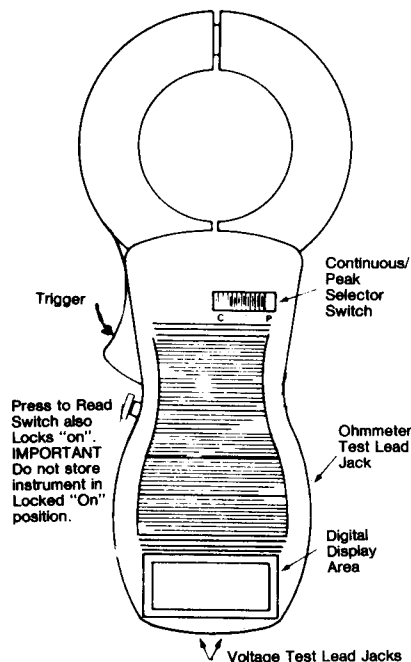

Figure 1
- Insert insulated voltage test lead connectors into voltage receptacles in bottom of instrument. (See Fig. 1) Push in against receptacle spring and twist clock-wise to lock in place.
- Plug ohmmeter lead into jack on the right side of the instrument. (See Fig. 1).
To take a reading once the instrument has been connected as per the following instructions, push in on the Press-to-Read button. See Fig. 1.